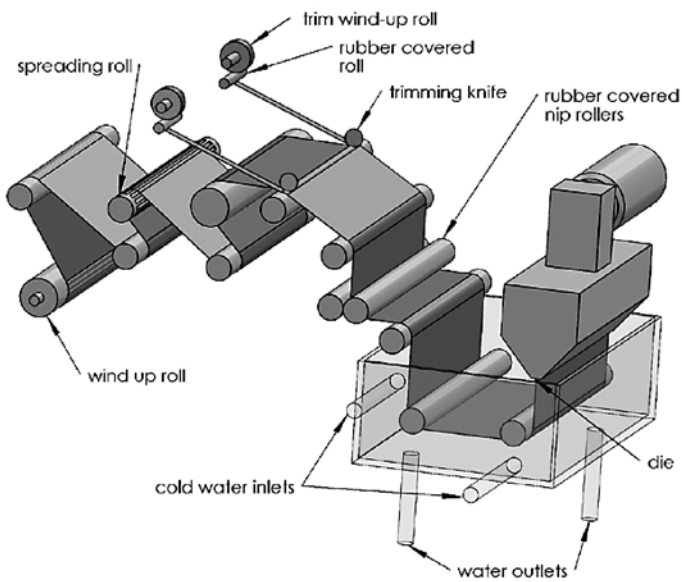

Figure 36.21 (Courtesy of Borealis AG)
- Water bath technology (Figure 36.21)